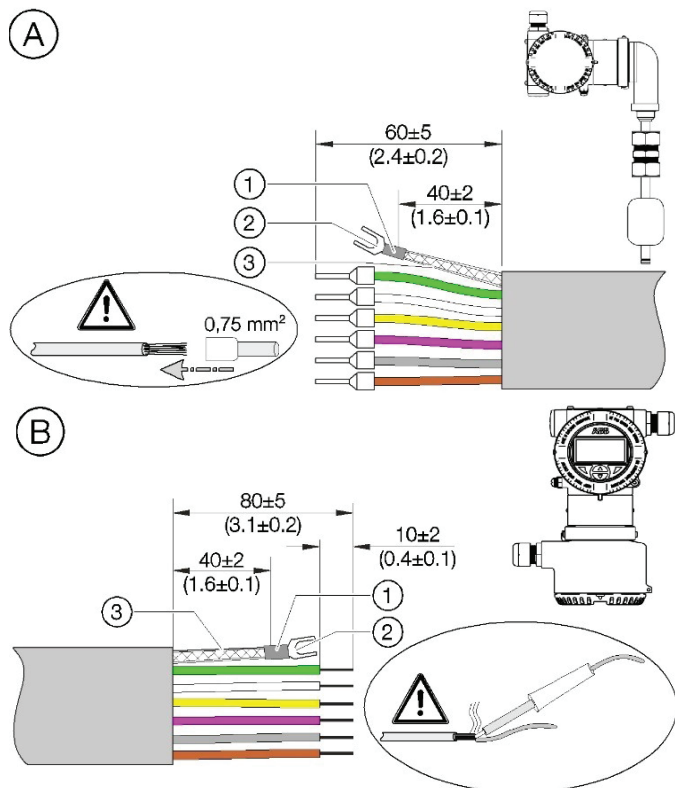

Figure 21 Signal cable dimensions in mm (inch)
- Remove the identification plate (see Figure 21) by loosening the retaining screw that is situated on the bottom left corner.